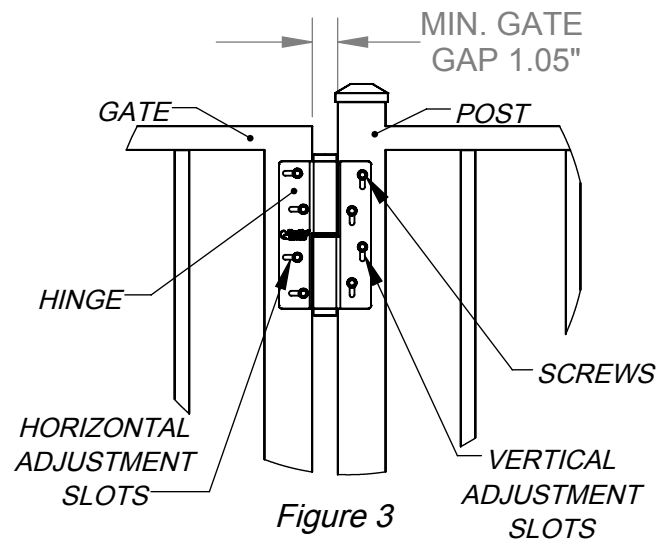

Figure 3
2) The hinges should be positioned on the front-facing surfaces of the post and gate frame with the gate in the closed position. Hinges must be in line with each other to function properly. Mount the lower and upper hinges as shown using the supplied self-drilling screws (Figure 3). Self-drilling screws are intended for aluminum fences; other fence materials may require different mounting hardware. The hinges may be adjusted horizontally or vertically since the mounting holes are slotted. **For applications where hinges MUST be self-closing, such as for pool gates, a stop must be installed to prevent the gate from opening more than 90 degrees. The Nautilus® has a hold-open feature which allows the gate to stay open when opened beyond 90°. In applications where the hold-open feature is used, a stop MUST be installed to prevent the gate from opening more than 160° degrees, as opening the hinge past 160° can cause catastrophic damage.**